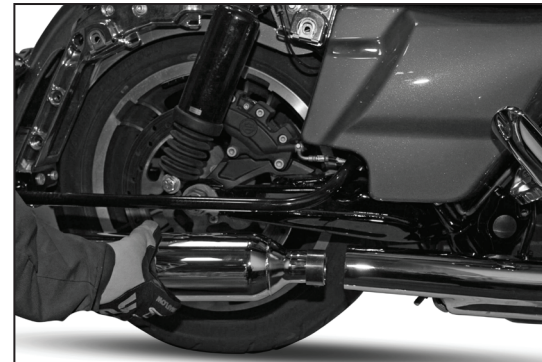

Fig.5
*Note: Penetrating lubrication may be necessary to assist in the removal of the muffler. (Figure 5)*